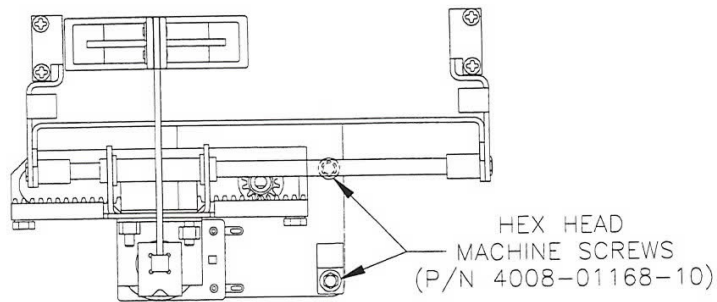

FIGURE 3
3. With the mini playfield resting against the backbox, you will be able to see the underside of the mini playfield. Slide the COIL/SLIDE ASSEMBLY (P/N A-19070) all the way to the left hand side of the MINI PLAYFIELD ASSEMBLY (P/N A-18382). Do this manually. You will now be able to see two(2) HEX HEAD MACHINE SCREWS (P/N 4008-01168-10). Using an open ended wrench, box wrench, or nut driver, remove these two screws (See Fig. 3).